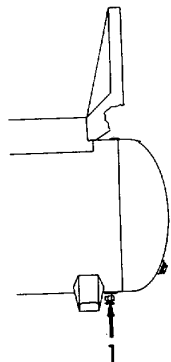
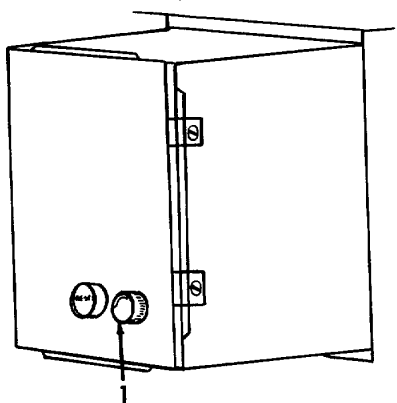

Figure 2-4. Air Tank Draining.
Figure 2-5. Motor Start-Up.
- a. Refer to Figure 2-4. Open the drain cock (1) and allow all moisture to drain from air receiver tank.
- b. Close the drain cock (1).
- c. Refer to Figure 2-5. Turn the motor starter box on/off switch (1) to start the motor.
c. Refer to Figure 2-4. Open the draincock (1) and allow all moisture to drain from tank.
d. Close the draincock (1).